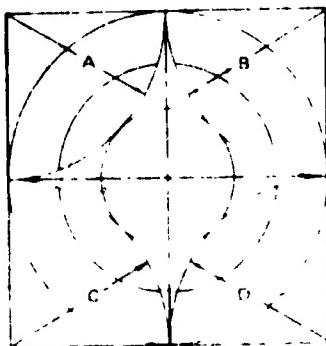

FIGURE 2
- A. Directions. Use "A" size drawing vellum with standard border and title block and divide the working space into two equal parts. Construct a 3 1/2" square centered on the left side of the working space and construct a figure like the one shown in Figure 2 in that space. Draw 1 3/4" radius arcs at A, B, C, and D, and construct small arcs so that they intersect as shown in Figure 2. Complete the problem by adding center lines.